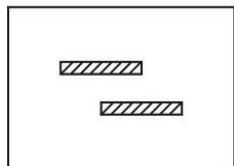
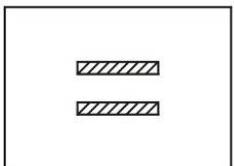
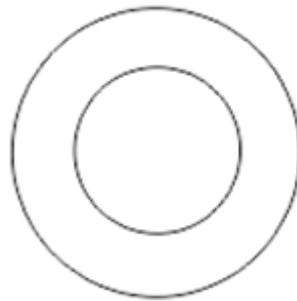

Fig.52
Fig.53
Fig.54
(1) Horizontal Phoria
If the patient has no presbyopia, set the results of phoria tested at far point in aperture. If the patient has presbyopia, put the results on the near point test. Set the near point card at 40cm, and turn auxiliary lens knob ② to set the right eye at $6\Delta U$ so that letter rows are fully separated. If the patient has horizontal phoria, it will be shown as Fig.52. Turn rotary prism ⑫ to the other eye, with 0 scale upward.(see Fig.54) Turn prism rotation knob ⑪ so that there is no difference between the left and right eyes and, at this time, scale of the rotary prism indicates prism power(see fig.53).